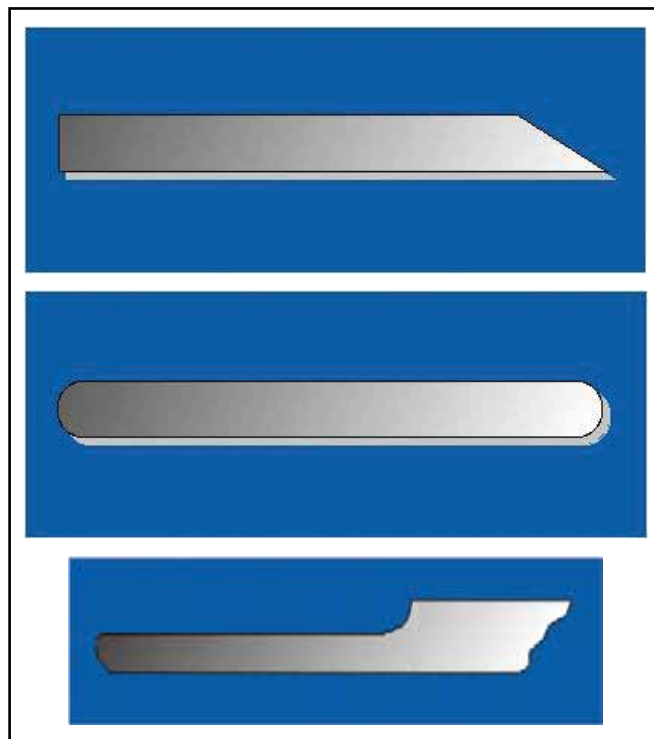

Figure 1: From Top, Bevel, Radius and Lamella edge types
- **Blade edge** at contact point is determined by edge type. See Figure 1.